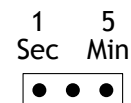

Figure 2: Sounder Cutoff Jumper
4. Place the two 3.0V Lithium batteries in the holders and press into place. See Figure 2 for battery location.